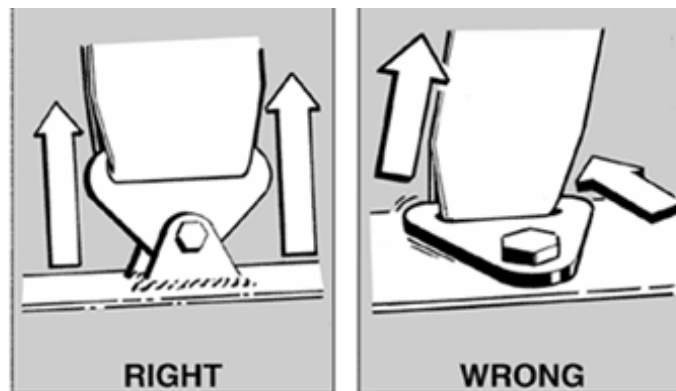

Figure 6
- 1) The lap belt tabs must be mounted in double-shear. (See Figure 6)